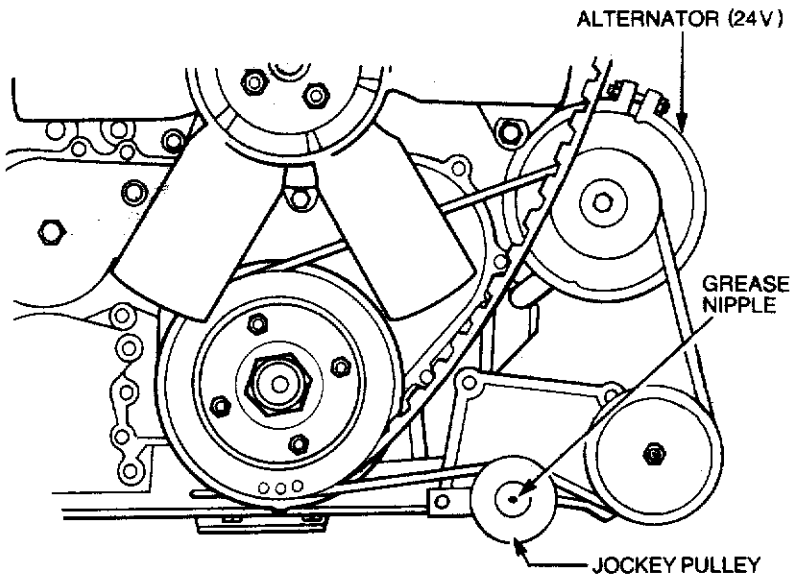

Figure 3-19 Jockey pulley lubrication
**349.** The 24 volt alternator fanbelt jockey pulley is fitted with one grease nipple and requires lubrication at each service (see Fig. 3-19).